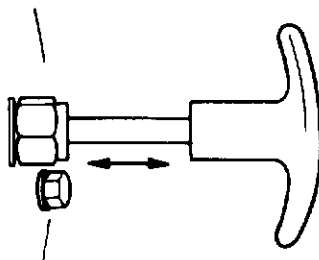

Figure 2-6 Winch/PTO control operation
- c. Depress the clutch pedal and select reverse gear, then pull out the winch/PTO control in the seat base (see Fig. 2-6) to engage the winch drive. Increase engine speed to approximately 1300 rpm then slowly release the clutch pedal to begin winding out the winch rope.
- c. Depress the clutch pedal and select a low forward gear, then pull out the winch/PTO control in the seat base (see Fig. 2-6) to engage the winch drive. Increase engine speed to approximately 1300 rpm then slowly release the clutch pedal to begin winding in the winch rope.